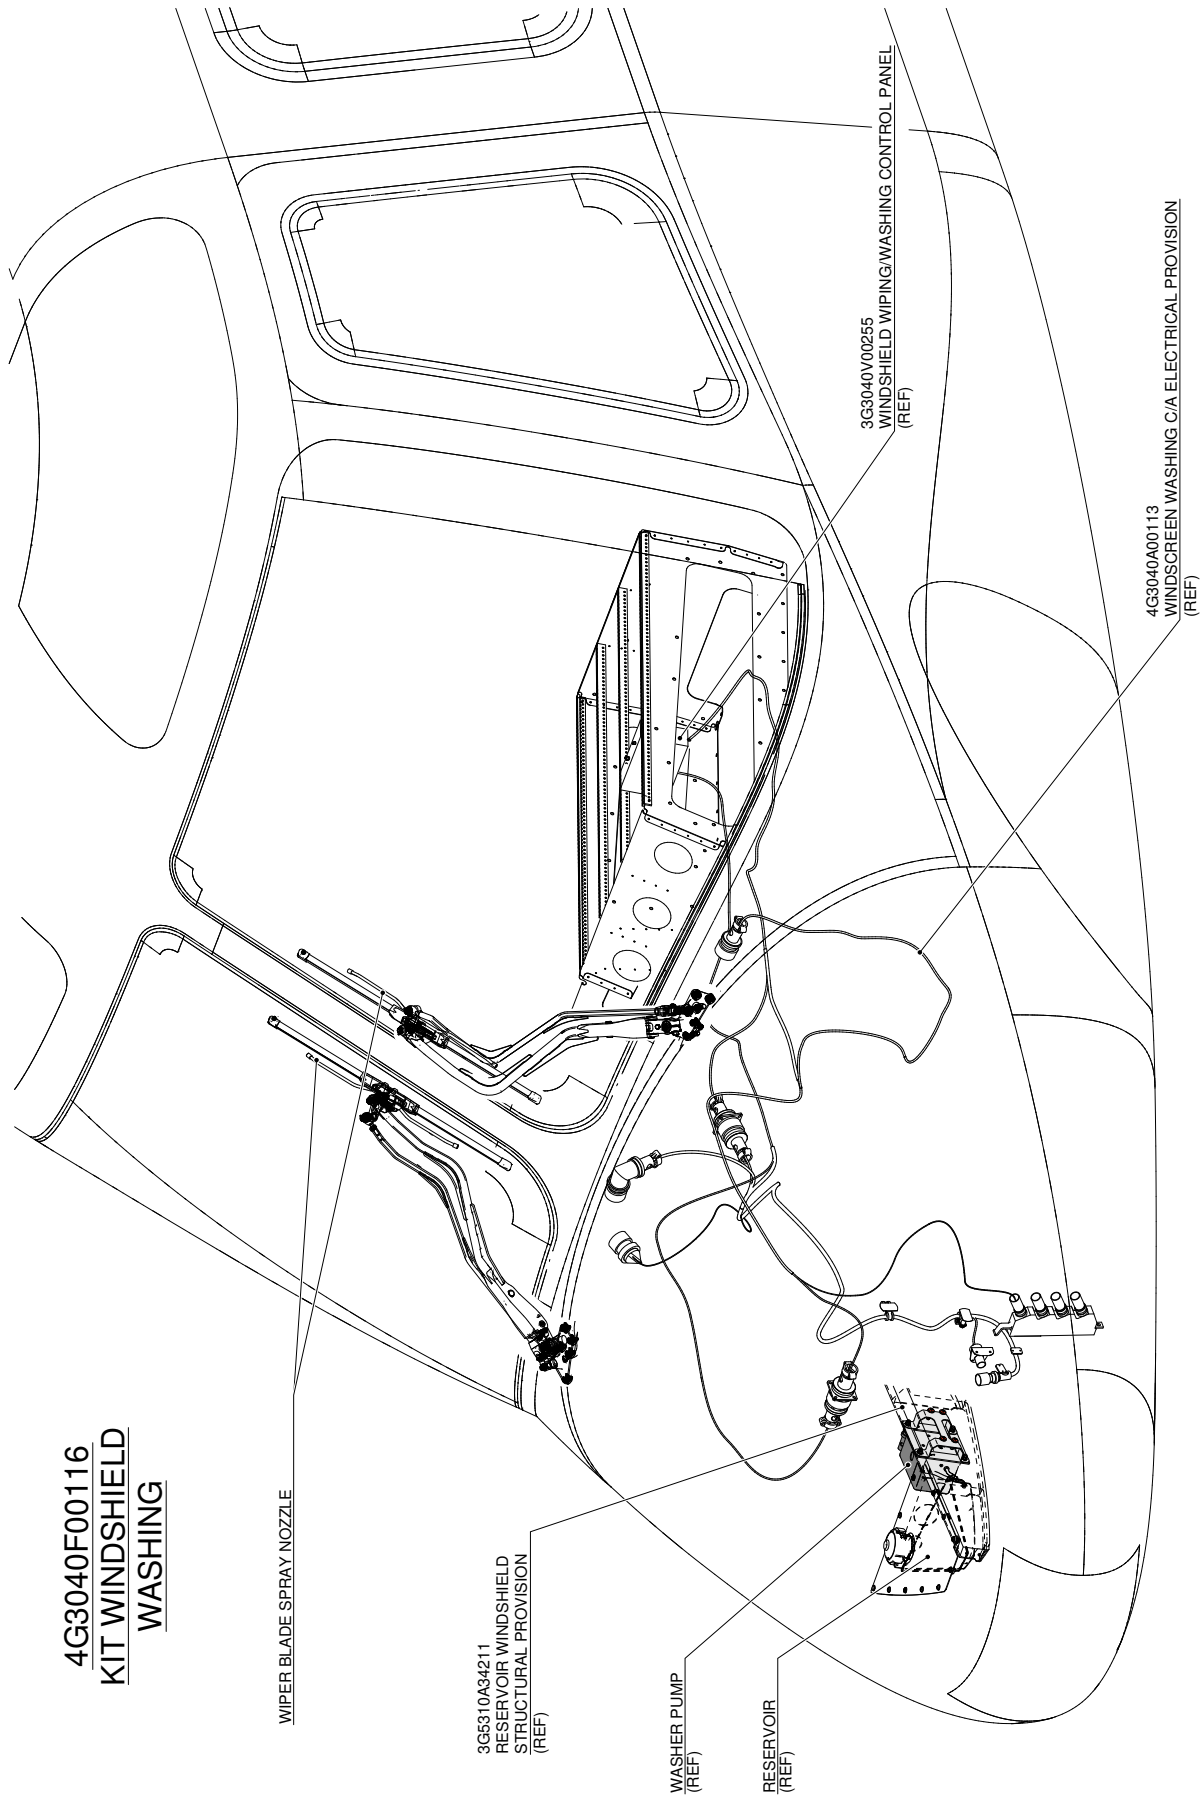

Figure 1
2. In accordance with AMP DM 39-A-06-41-00-00A-010A-A and with reference to Figures 1 thru 3, gain access to the area affected by the installation and perform the installation of reservoir windshield structural provision P/N 3G5310A34211 as described in the following procedure: